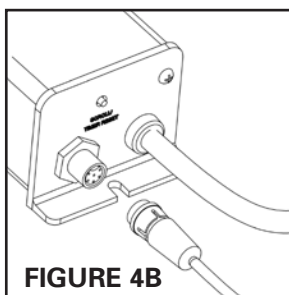
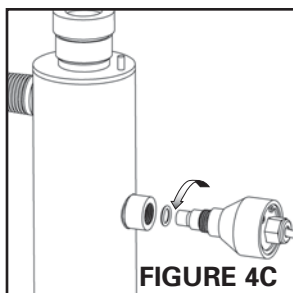

FIGURE 4B
FIGURE 4C
1. Before removing the sensor assembly, follow the steps as outlined in the "Quartz Sleeve Replacement And/Or Cleaning" section. The quartz sleeve should be cleaned at the same time as the UV sensor. Disconnect the UV sensor from the Silver "Plus" (BA-ICE-SM) controller by disconnecting the sensor cable, turning the collar counter-clockwise (Figure 4B). To remove the sensor, grasp the body of the sensor and rotate counter-clockwise (Figure 4C) until the sensor is free of the threaded sensor port.
3. Ensure sensor lens is rinsed free of cleaning solution. Carefully reassemble the sensor assembly with o-ring (Figure 4E) into the sensor boss. Screw the sensor into the boss and tighten to achieve a water-tight seal. DO NOT OVER TIGHTEN. Attach the sensor cable to the Controller and return to service (Figure 4B).